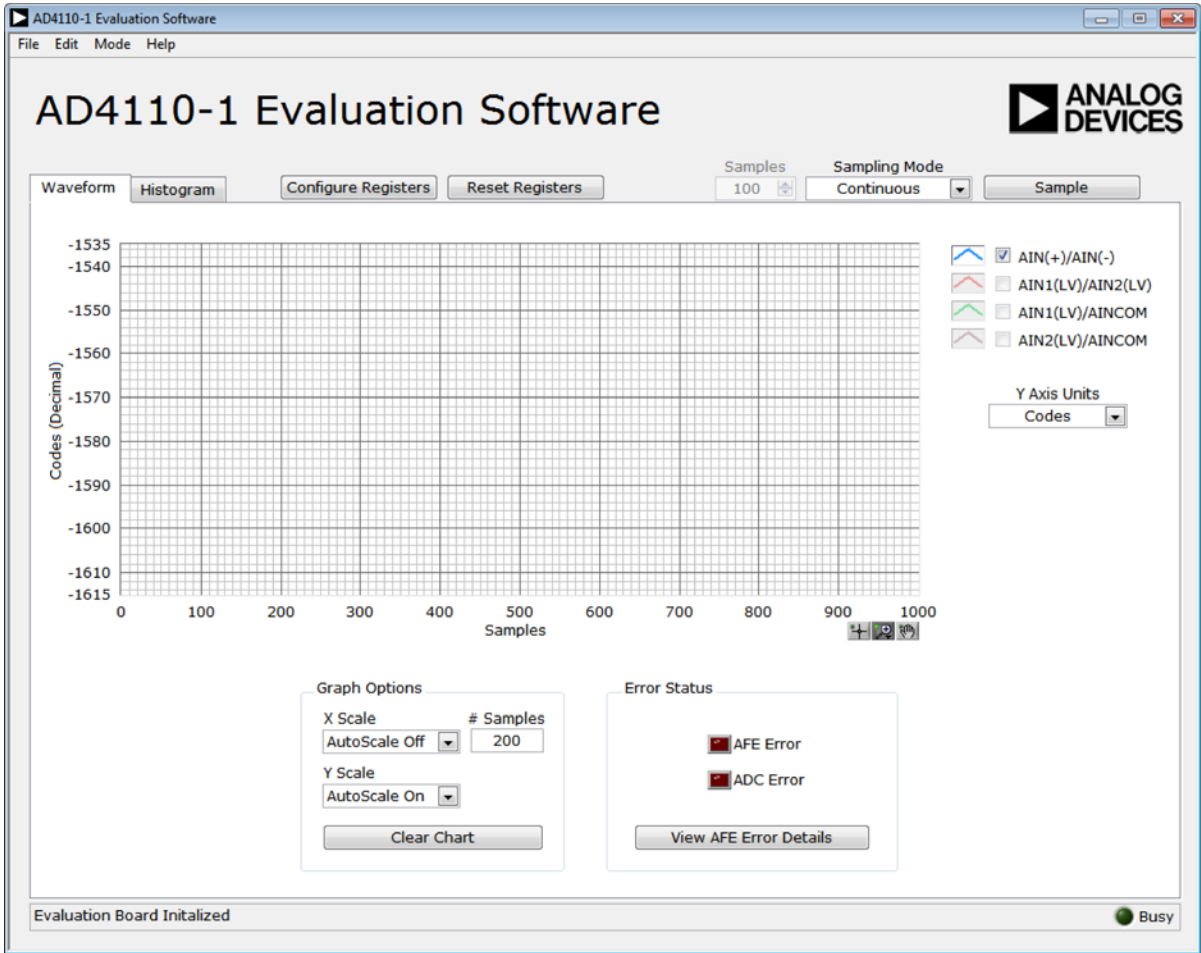

Figure 17. AD4110-1 Evaluation Software Main Window
1. Click **Start, All Programs, Analog Devices, AD4110-1_SDPZ**, then **AD4110-1**. The main window of the software displays (see Figure 17).
The main window (Figure 17) shows the significant control buttons and indicators of the AD4110-1 evaluation board software. Using the demonstration modes automatically configures the AD4110-1 device for connection to one of the sensors. The main window functionality adapts to the chosen demonstration mode.